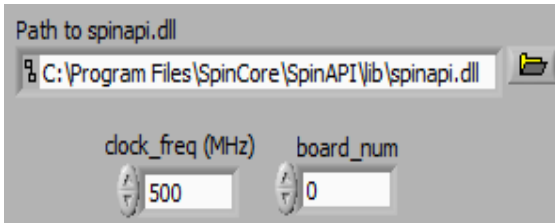

Figure 5: PulseBlasterESR MultiCore Field
- Path to spinapi.dll is used to set the path to the spinapi.dll so the LabVIEW functions can connect to the spinapi library. (Figure 5)
- clock_frequency determines the state of the output bit. If an LED is on then it's corresponding output bit is high, and if the LED is off then it's corresponding output bit is low. (Figure 5)